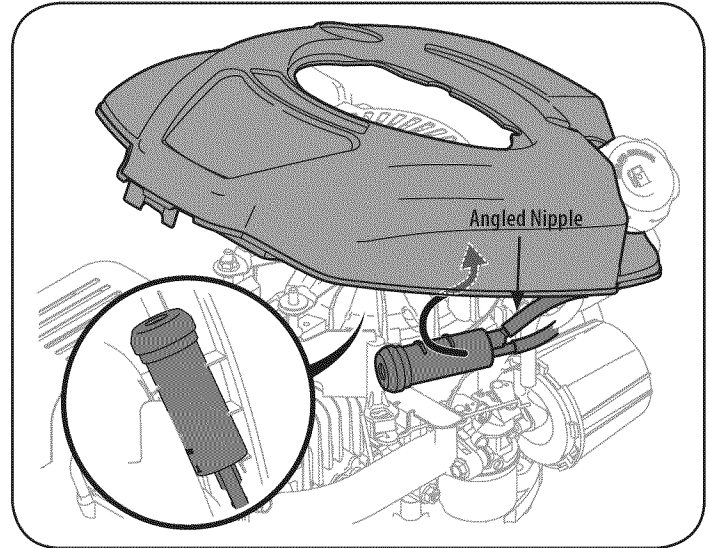

Figure 21
- Snap the carbon canister filter assembly back into place under the inner engine shroud. See Figure 21 inset.